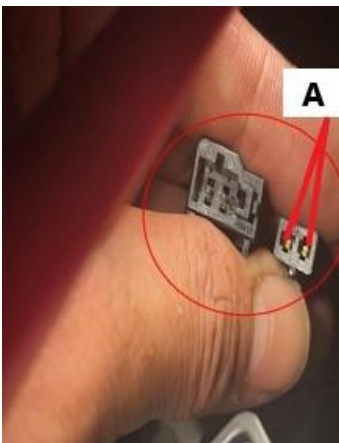

Figure 3
5) Referring to Figure 3 - Disconnect the E24 connection (circle)
Hint: The next part of the procedure requires the resistance of the seat belt buckle harness to be measured. The resistance measurement must be taken at the location shown in Figure 3 (Point A) The operative must take care not to damage the terminals shown at point A when taking the resistance measurements